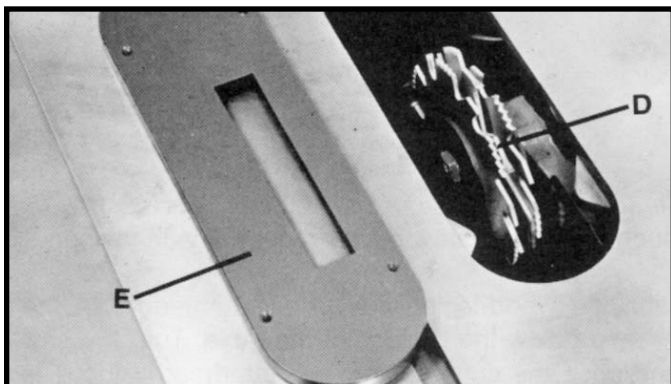

Fig. 72
The dado head set (D) Fig. 72, is assembled to the saw arbor as shown. **NOTE: THE OUTSIDE ARBOR FLANGE CAN NOT BE USED WITH THE DADO HEAD SET, TIGHTEN THE ARBOR NUT AGAINST THE DADO HEAD SET BODY. DO NOT LOOSE THE OUTSIDE ARBOR FLANGE, FOR IT WILL BE NEEDED WHEN REATTACHING A BLADE TO THE UNISAW ARBOR. ALSO, THE ACCESSORY DADO HEAD SET TABLE INSERT (E) FIG. 72, MUST BE USED IN PLACE OF THE STANDARD TABLE INSERT.**